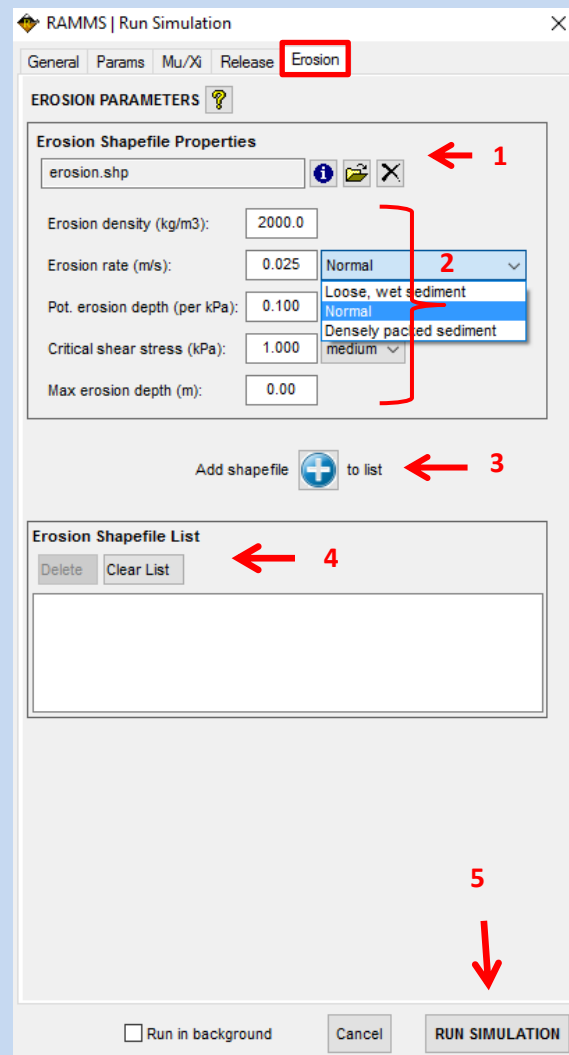

Figure 3-56: Erosion Tab
- Click run simulation (Figure 3-56)